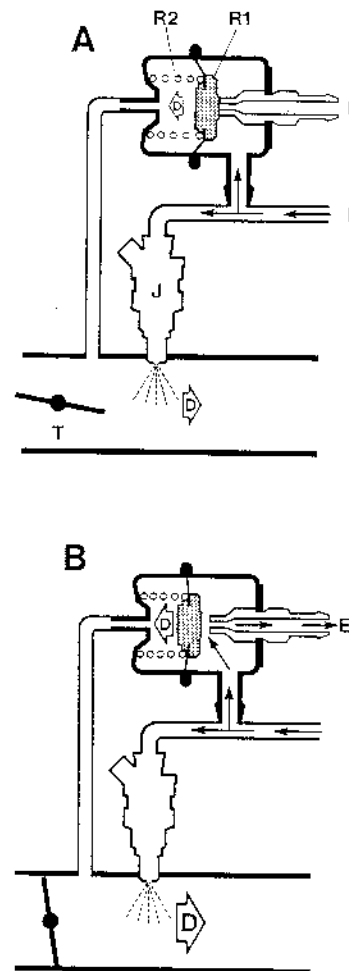

Fig.5 Fuel Pressure regulator
The pressure regulator is fitted in the excess fuel return pipe (E), close to the injector fuel rail with its fuel supply (F) as seen in fig.5. It has two chambers separated by a diaphragm (R1); one chamber contains fuel from the supply line (F), the other is linked by a pipe to the engine side of the throttle butterfly to sense manifold depression.